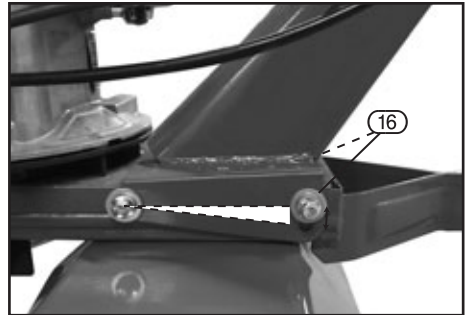

FIG.13
9.5 HANDLE BAR HEIGHT ADJUSTMENT - FIG. 13